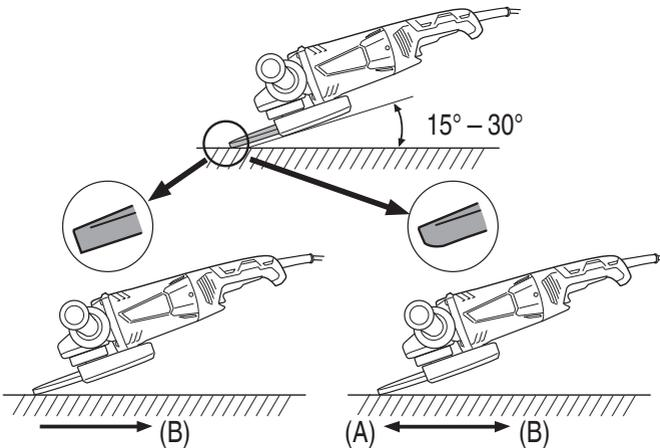

Fig. 6
6. Grinding angle and grinding method (**Fig. 6**)